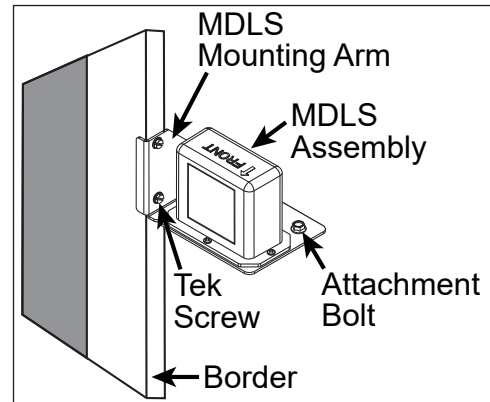
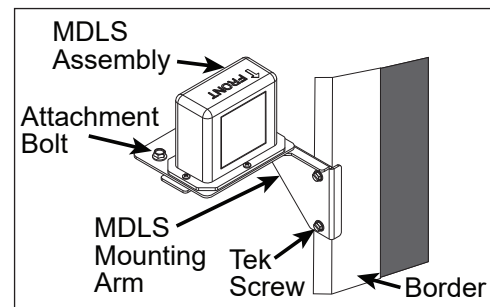

Figure 21: MDLS on Right Side of Display (From Front)
Figure 22: MDLS on Left Side of Display (From Front)
3. Loosen the attachment bolts that hold the MDLS assembly to the MDLS mounting arm. Refer to **Figure 21** and **Figure 22**.
5. Remove the two Tek screws that secure the MDLS mounting arm to the border. Refer to **Figure 21** and **Figure 22**.